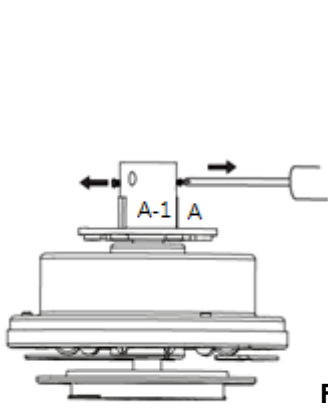

Fig. 7a
NOTE: Do not discard keep these parts, they are required to reassemble later. (Fig. 7a)
- Loosen the set screws (A) on the down rod coupling housing (A-1). **(Fig. 7a)**